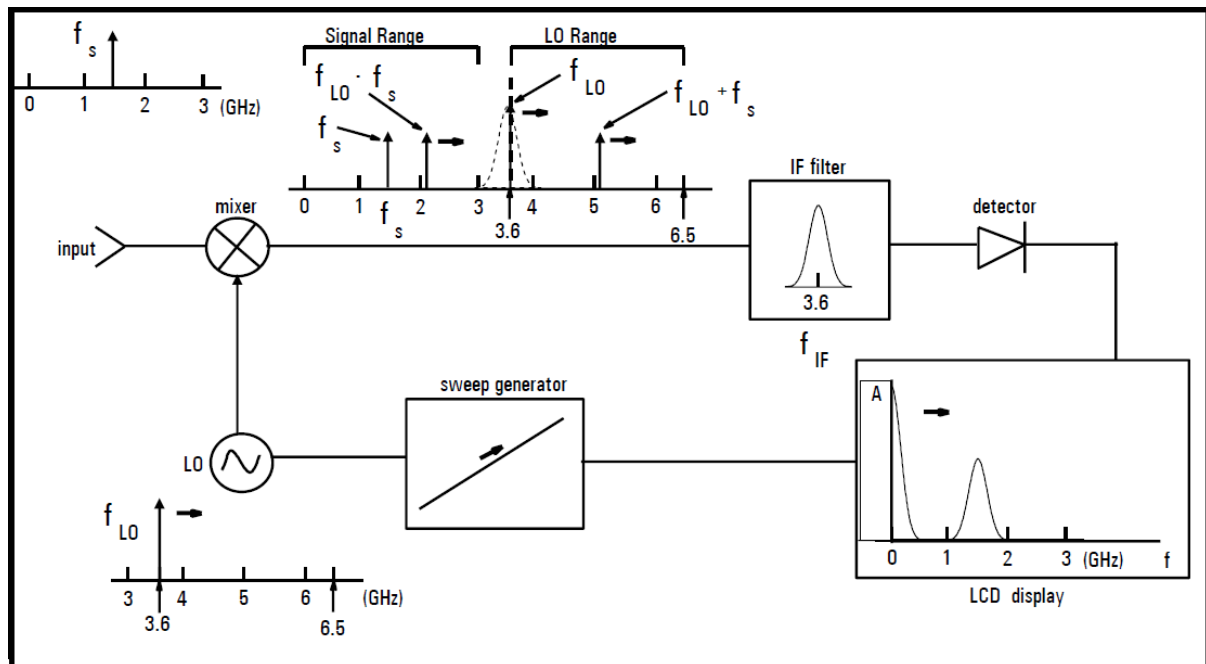

Figure 09 – Operation of the Spectrum Analyzer: an example
Let's go through the steps that follow after a signal is given to the spectrum analyzer as the input (Fig. 09).
2. Signal is then combined with the LO at the mixer and then it is translated to an intermediate frequency (IF). This would generate four signal components with frequencies f_{LO} , f_s , $f_{LO} - f_s$ and $f_{LO} + f_s$. Here, $IF = f_{LO} - f_s = 3.6 - 1.5 = 2.1$ MHz.
4. Then the f_{LO} would keep increasing from 3.6 MHz according to the sweep generated by the sweep generator. As LO sweeps, so too will the three of the outputs (f_s would be stationary as it is the signal frequency). Since the IF filter is also located at 3.6 Mhz at the beginning we would see a signal at the 0 Hz position of the display (Fig. 09). This is called as the "LO feedthrough".